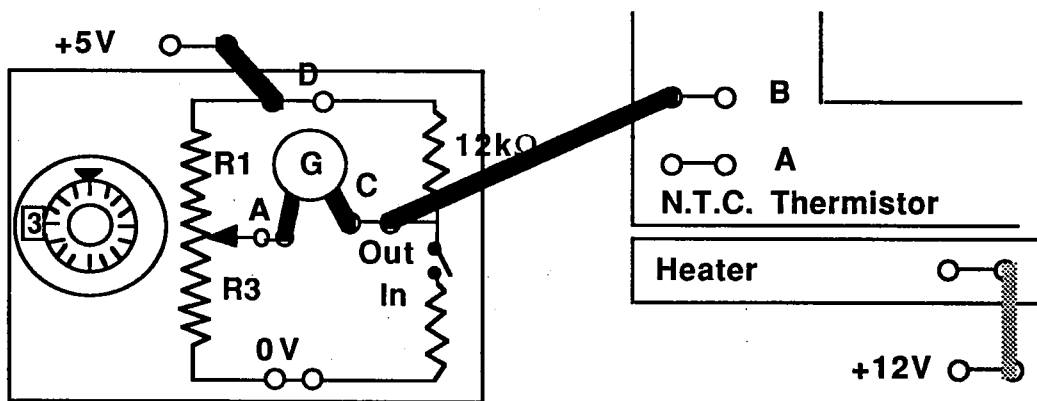

Figure 33
- Connect the circuit as shown in Fig 33 and set the switch on the Wheatstone bridge circuit to OUT. Use either the digital voltmeter or the combination of differential amplifier, amplifier #1 and moving coil meter as the galvanometer.